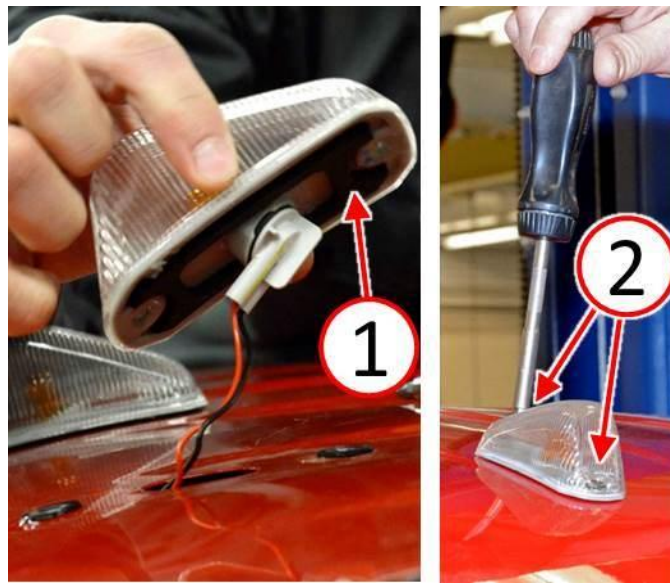

Fig. 9 Install Roof Clearance Lamp
9. Install the roof clearance lamp (1) to the vehicle (Fig. 9).
10. Install the roof clearance lamp screws (2) and tighten to 2 N·m (18 in. lbs.) (Fig. 9).